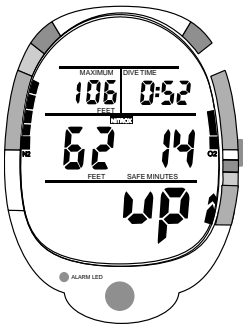

Fig. 30 - Ascending
- Alpha graphic dn during Descent (Fig. 29), or up during Ascent (Fig. 30)